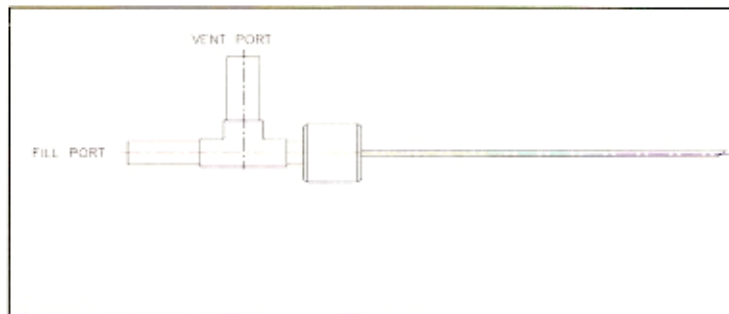
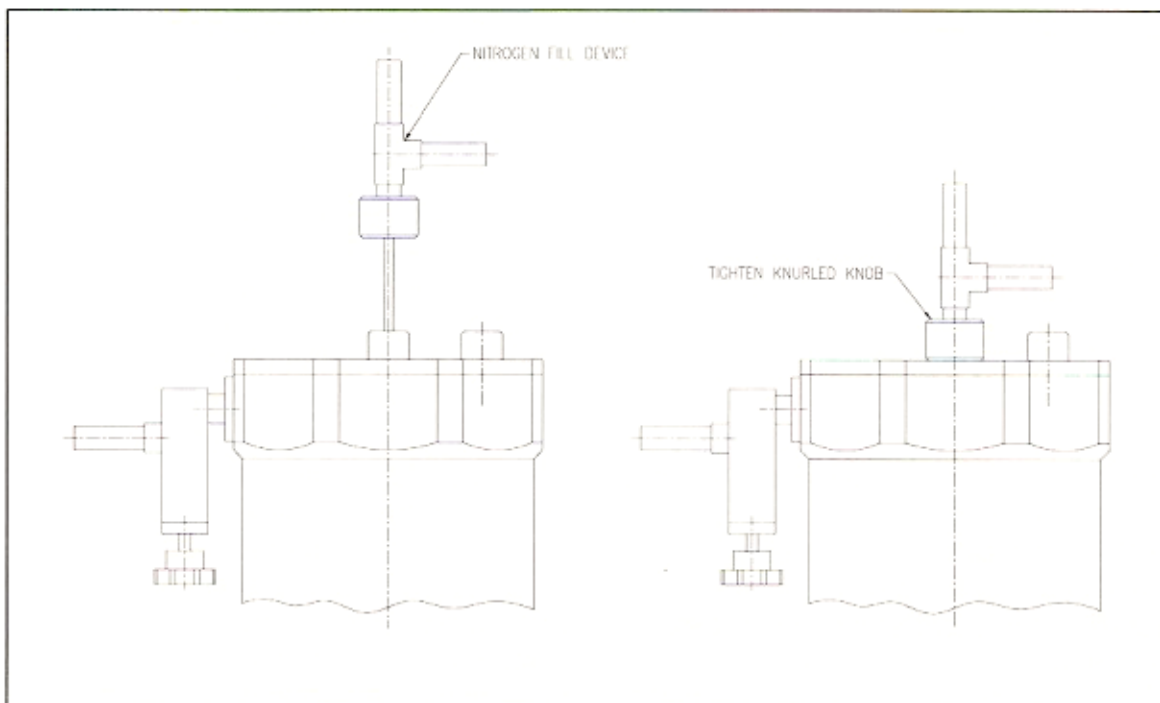

FIGURE 2 – Nitrogen Fill Device
FIGURE 3 -- Installing the Nitrogen Fill Device
- (3) Insert the liquid nitrogen fill device, Figure 2, into the Helium fill port and tighten the knurled knob, Figure 3. The raised edge of the fill device should seal on the Teflon gasket.